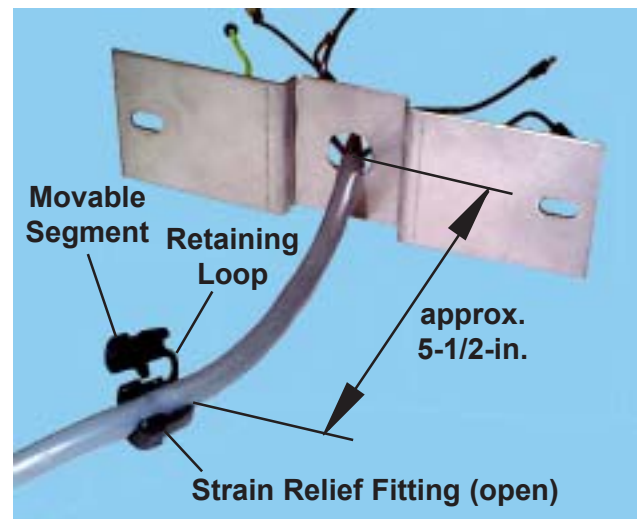

Figure 16. Strain Relief Fitting and Foot Controller Cord
1. Slide the new foot controller cord wires through the center hole in the access plate (Figure 16).